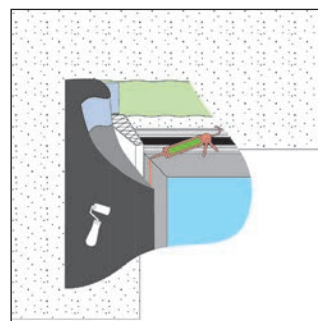

Fig 3: Application of OT015 Paste Adhesive
- To achieve a quicker, easier and economical application, we recommend using OT015 Paste Adhesive when bonding to non-porous materials (see Fig. 3).